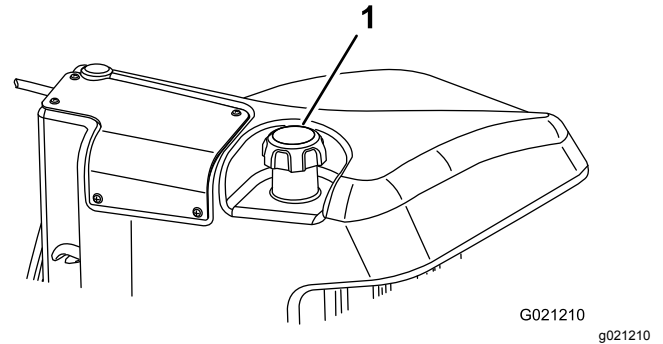

Figure 28
3. Remove the cap from the fuel tank (Figure 28).